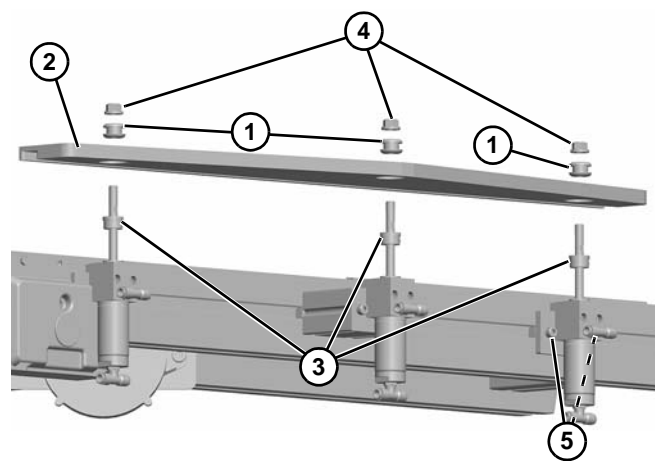
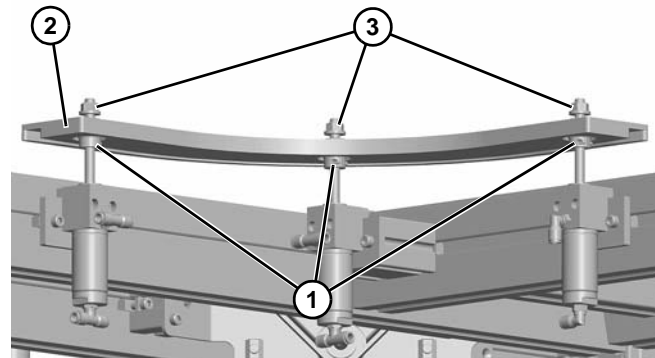

Figure 88
Figure 89
4. Insert grommets (**Figure 88, item 1**) into holes of straight guide. Install straight guide (**Figure 88, item 2**). Position cylinder assemblies so that the washers and clamp collars (**Figure 88, item 3**) are in the circular openings in the bottom of the guide.
5. Thread flange lock nuts (**Figure 88, item 4**) onto cylinder shafts, but do not tighten.
6. Finger tighten screws (**Figure 88, item 5**) on cylinder assemblies.
2. If the pallet binds, loosen clamp collars (**Figure 89, item 1**) and adjust up or down to raise or lower corner guide (**Figure 89, item 2**). If needed, loosen the screws (**Figure 88, item 5**) on the cylinder assemblies, and move them left or right.
3. Tighten screws (**Figure 88, item 5**) on cylinder assemblies. Tighten clamp collars and lock nuts (**Figure 89, item 3**).